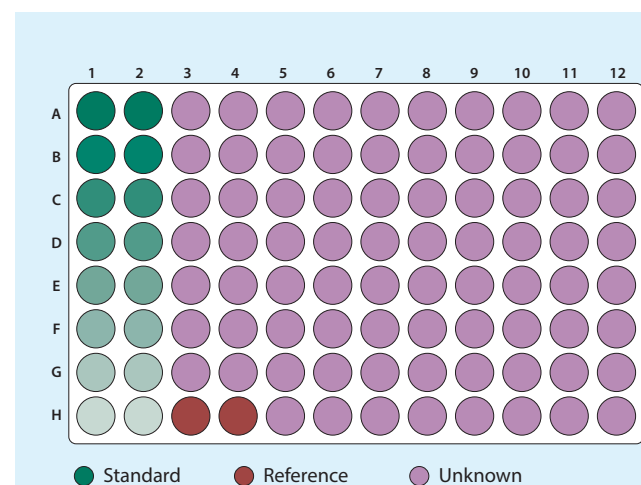

FIGURE 1: Example plate layout for a routine assay run in a 96-well microplate.
- 3 Transfer triplicates of the standards and the unknowns to a sample plate. It is recommended to organize samples in columns, from A–H. Fill at least one well with blank diluted matrix for reference subtraction during data analysis. An example plate map is shown in Figure 1.
- 2 Pipet standards, controls and samples into a black polypropylene microplate (see Figure 1 for a sample plate layout).
- 5 Set up a Basic Quantitation assay. An example plate map is shown in Figure 1. For details on how to set up an assay see the Octet Data Acquisition User Guide. The dynamic range of the assay can be tuned by changing the shake speed and the read time.